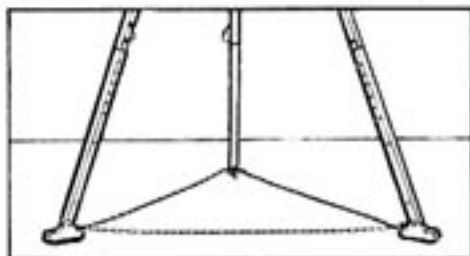

Figure 1
1. Inspect the work area for debris and other material that could cause injuries or interfere with the operation of the system. Be sure that the tripod is positioned on stable, hard ground before setting it up. The leg chain and all locking pins should again be checked to see they are correctly securing equipment. (See Fig. 1)